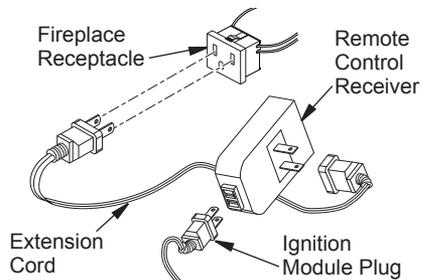

Figure 32 - Installing the WRC Remote Receiver
- Plug ignition module into receiver unit (see Figure 32).